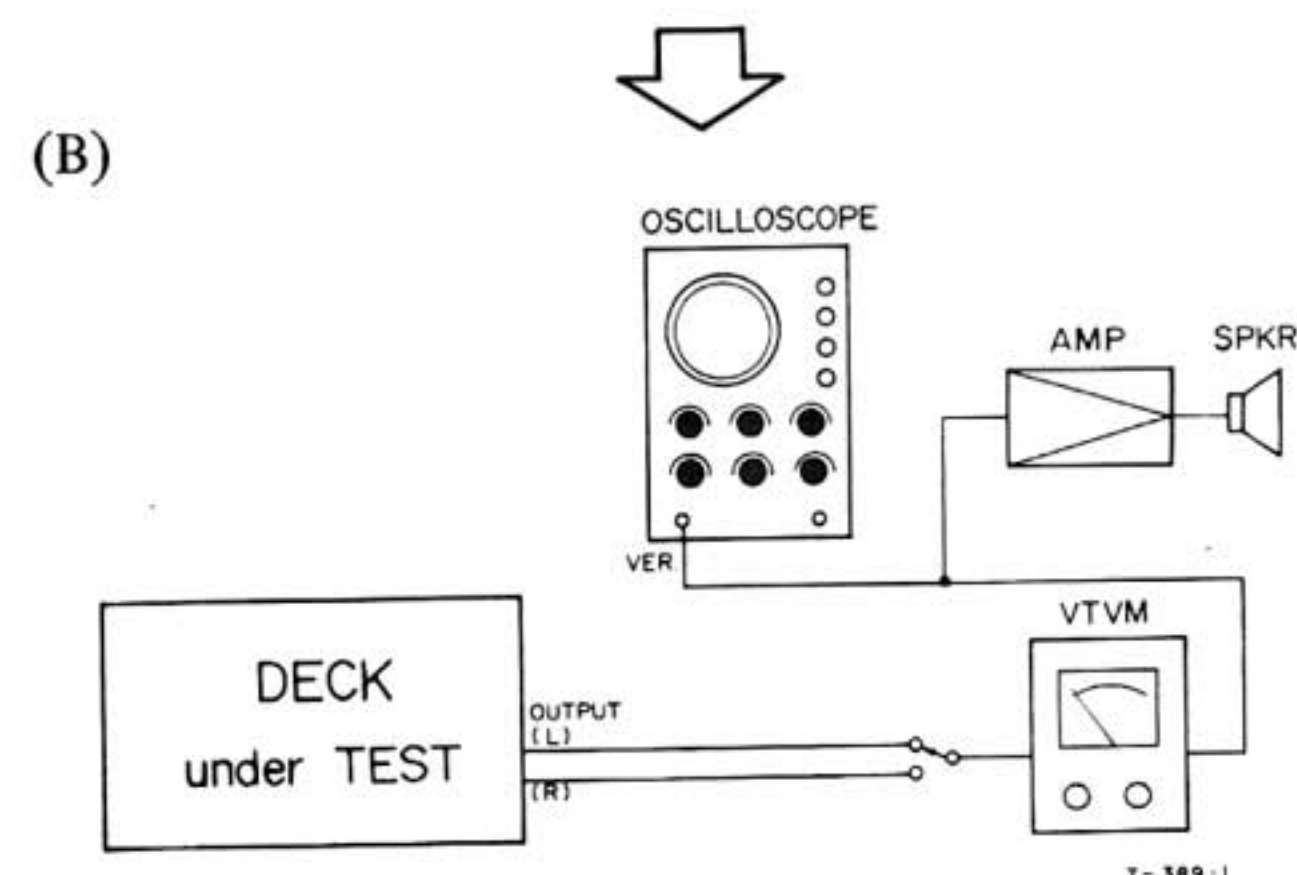

Fig. 6-8 Connection
Connection: See Fig. 6-8 (B) on page 18.